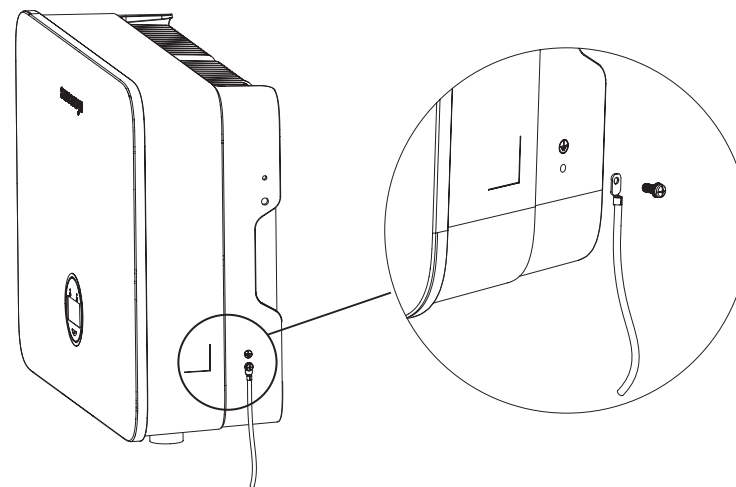

Figure 4-13 Grounding terminal connection
- ① The external grounding terminal is located in the lower right side of the inverter.
- ② Fix the grounding terminal to the PE wire with a proper tool and lock the grounding terminal to the grounding hole in the lower right side of the inverter, as shown in Figure 4-13.
- ③ The cross-sectional area of the external grounding cable is 4mm^2 .